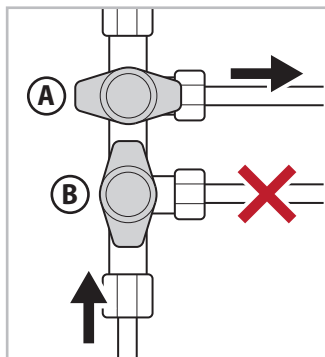

Fig.6.25 - Opening and closing the taps
**Operation:** the taps are closed (**B** - Fig.6.25) when the knob is perpendicular to the outlet pipe, and are open (**A** - Fig.6.25) when the knob is in the same position as the outlet pipe.